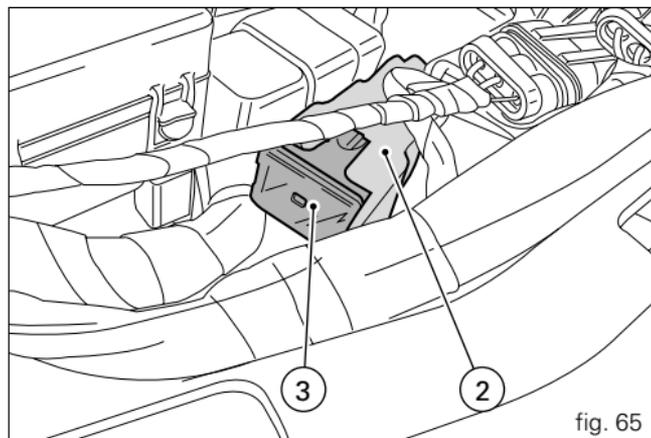

fig. 65
The 30 A fuse (2) on the side of the fusebox (fig. 65) protects the electronic voltage regulator.